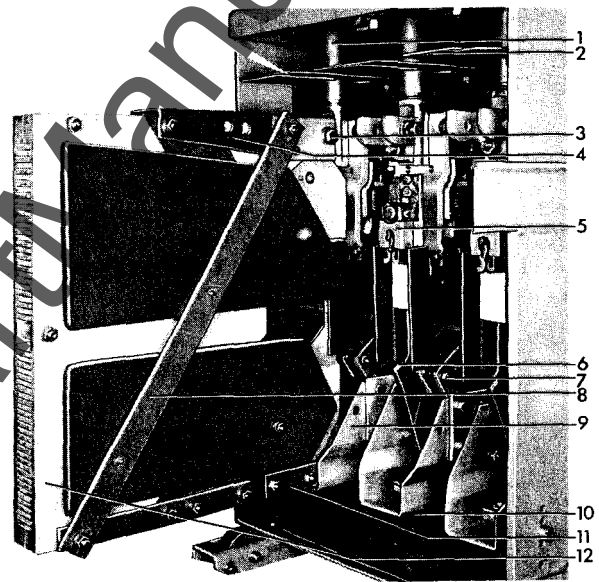

Fig. 16 (8039584) Interrupter Removed Showing Accessibility of Arcing Contacts
Refer to Figure 16. To remove the interrupter loosen the two upper supporting bolts (3) and the one lower support bolt (10) using a standard 3/4" wrench. Raise the assembly approximately 3/8" and slide it toward the rear of the breaker.
Tighten the supporting bolts (3 and 10) Figure 16. These bolts serve as both the electrical and mechanical connections between the bushings and the arc runners within the interrupter. Check that the movable arcing contact (6) passes between the probes on the upper arc runner (5) Figure 19 without touching.